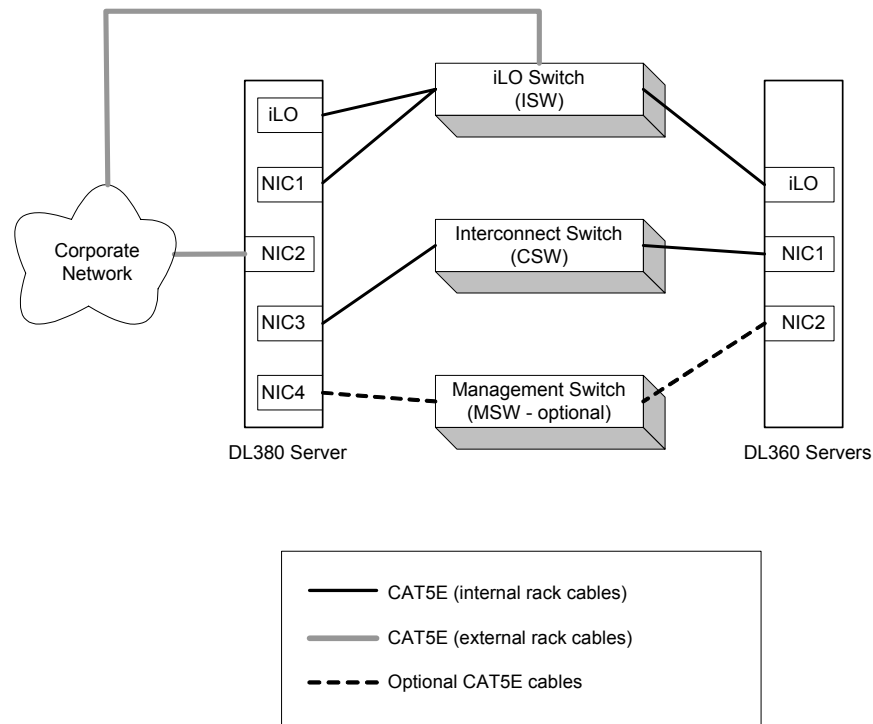

figure 2. network overview of 10/100 Fast Ethernet and Gigabit Ethernet HPC solutions
All of the network cables within each rack are labeled for easy identification. The *HP High Performance Clusters LC Series Cabling Guide* explains and illustrates the cabling requirements for each of the HPC LC Series solutions in detail. Also, if your HPC solution is comprised of multiple racks, then there will be some inter-rack cabling. That is, some of the cables from one rack will be connected to a switch in another rack. Furthermore, each HPC solution will have some network cables that need to be connected outside of the rack to the corporate network (for example, the DHCP connection). The network cables that need to be connected outside of the rack are not labeled but are included with the product. Refer to figures 2 and 3 for a high level overview of the network cabling requirements for the various HPC LC Series solutions.
Figure 2 below provides a high level overview of the network cabling requirements for the **10/100 Fast Ethernet** and **Gigabit Ethernet** HPC cluster solutions only.
In figure 2 above, the DL380 server has one (1) iLO port and four (4) NIC ports. Both the iLO port and NIC1 port connect to the iLO switch (ISW). NIC2 is used to connect to an external network. NIC3 is used to connect to the cluster interconnect switch (CSW). In this configuration, the cluster interconnect switch can be either a 10/100 Fast Ethernet or Gigabit Ethernet switch. NIC4 is used to connect to the optional management switch (MSW). If the management switch is not part of the solution, then NIC4 will not be connected.
Figure 2 above assumes you will be connecting your HPC LC Series solution to an external DHCP server. The DHCP server must be provided by the customer and be made available to the system before proceeding to use iLO. If you plan on using the control node and HPC cluster software to assign DHCP addresses, then you will need to cable the system accordingly.